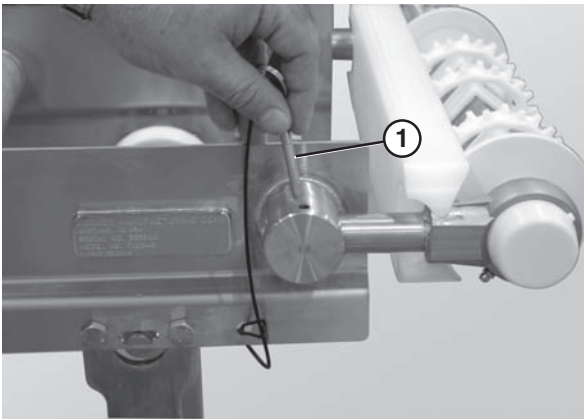

Figure 70
5. Remove the pull pin (**Figure 70, item 1**).
1. Remove the pull pins (**Figure 70, item 1**).